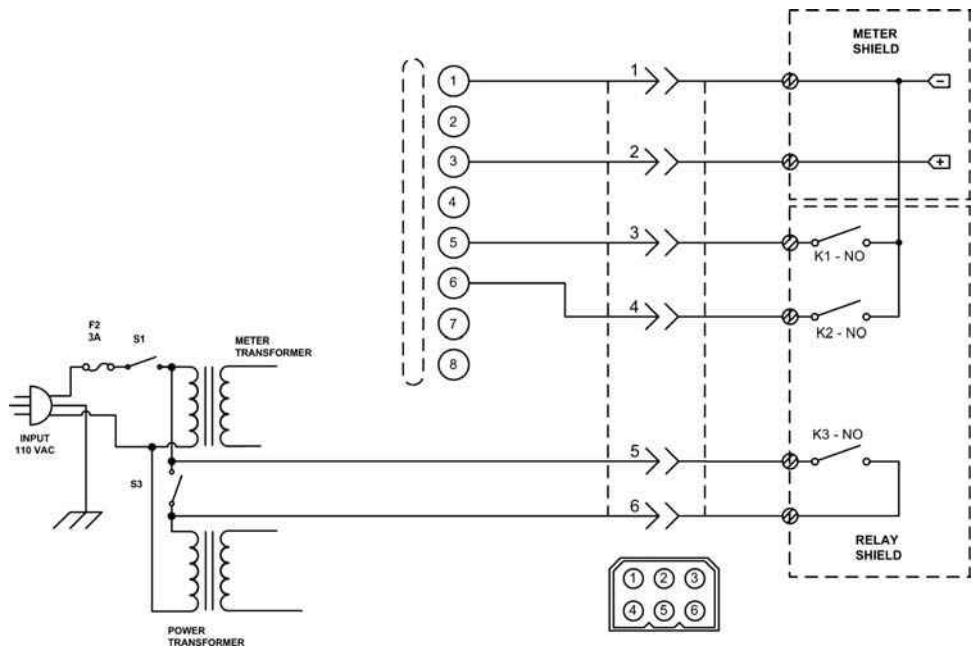

FIGURE 13-15 Interconnections for later rotators: Ham-2, Ham-IV, and T2X.
These include the Ham 2, Ham IV, and Tailtwister T2X rotators. As shown in Figure 13-15, one set of connections is made inside the control box, placing relay K3 in parallel with the brake switch. The brake switch is the center switch of the three lever switches and is identified as S3 on their rotator schematic. The direction control relays are connected between the ground screw terminal (1) and the direction control screw terminals for clockwise/right (5) and counterclockwise/left (6). The voltmeter input (for heading) is connected between the ground terminal (1) and terminal 3.